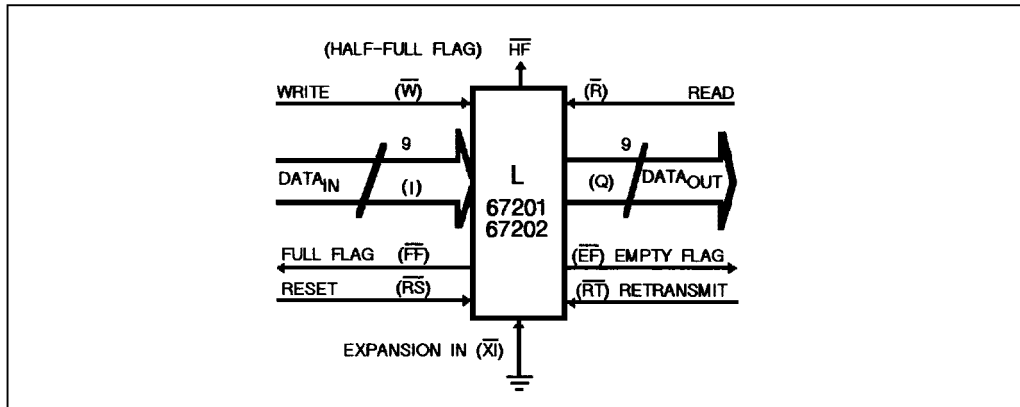

Figure 2 : Block Diagram of Single 512 x 9 and 1024 x 9.
the Expansion In ($\bar{X}I$) control input is grounded (see Figure 2). In this mode the Half-Full Flag (\overline{HF}), which is an active low output, is shared with Expansion Out (XO).